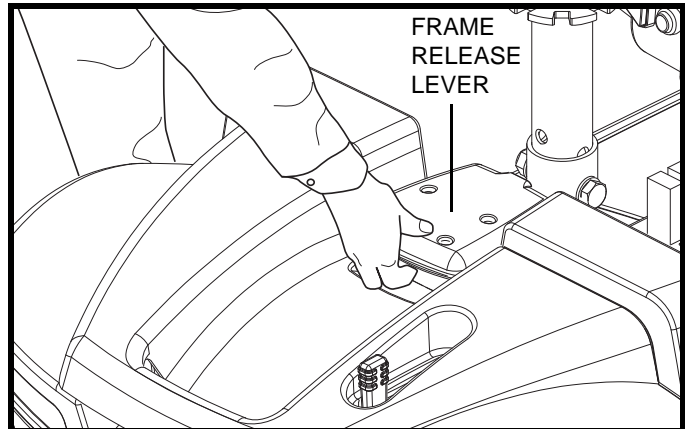

Figure 21. Frame Release Lever
3. Grasp and lift up on the frame release lever. **See figure 21.**
2. Use the frame release lever to lift the front section as you align the frame hooks of the front section with the lower frame tube of the rear section. **See figure 21.**